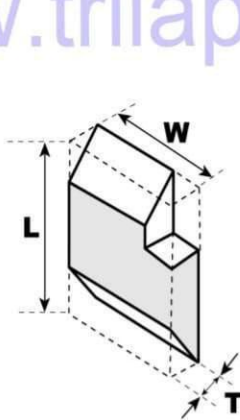

Figure 3.
- Note 1. The size of a brush is defined by the dimensions of the outer edges that will contain the whole brush shape. See Figure 3.